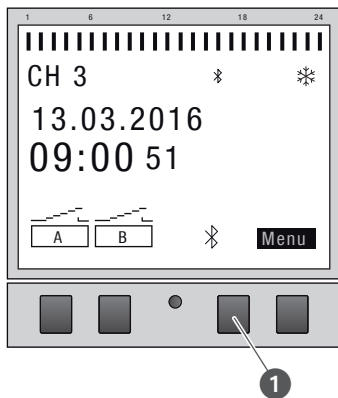

Fig. 22: Establishing a Bluetooth connection to the channel extension
6. Press the Bluetooth button (Fig. 22/1) on the channel extension.